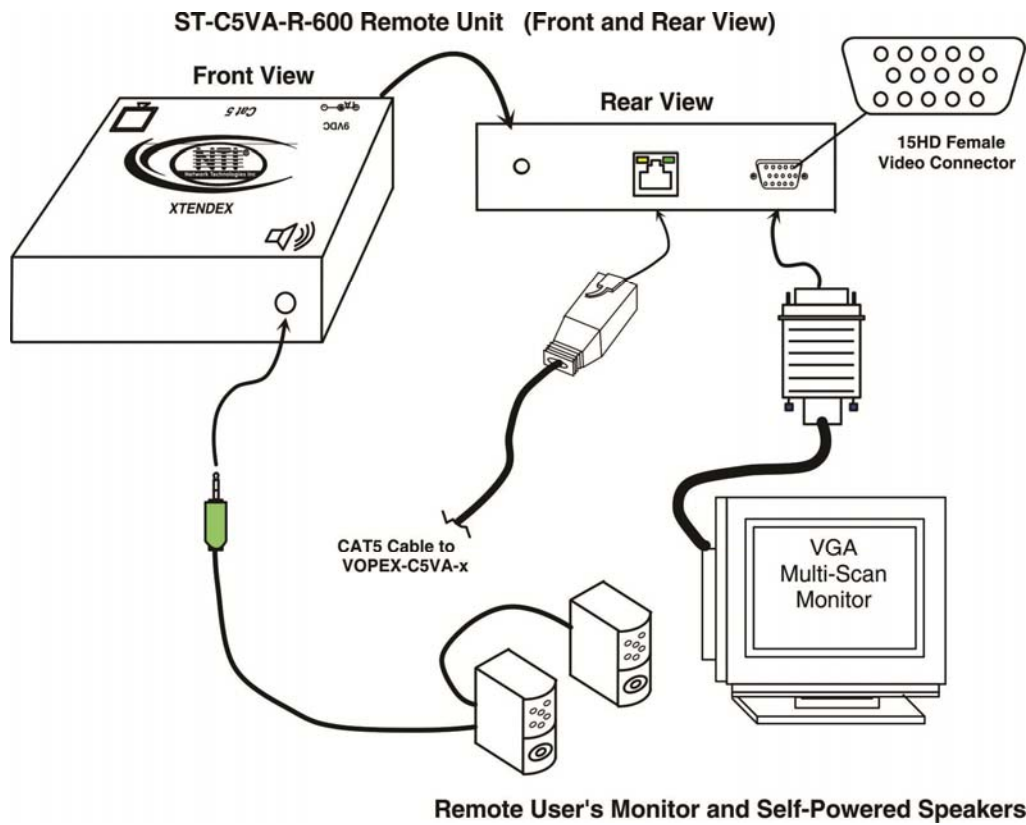

Figure 3- Make connections to 600 Foot XTENDEX Remote Unit
3. Connect the remote user's speakers to the 3.5mm female stereo connector on the Remote Unit (see Fig. 3).